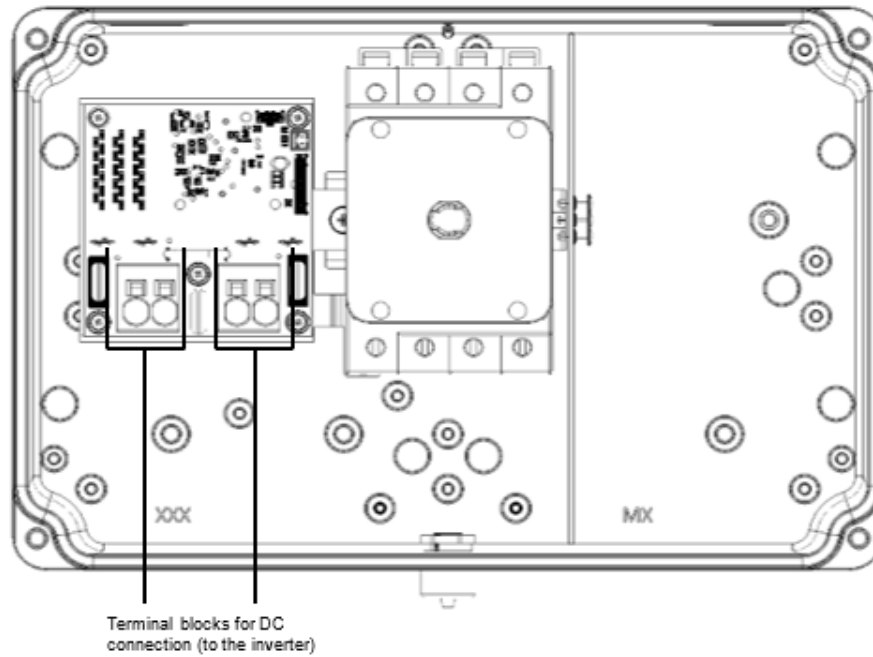

Figure 2: Inside the DC Safety Unit
2. Loosen the screws on the front cover of the DC Safety Unit, as shown in Figure 2.